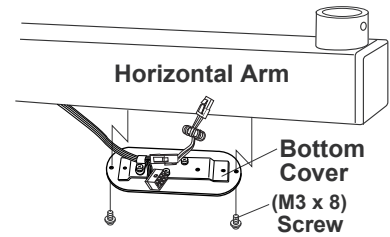

Fig.3-11 Horizontal Arm Bottom Cover
2. Remove two (M3 x 8mm) screws from the underside of the horizontal arm to open the bottom cover. (Fig.3-11)